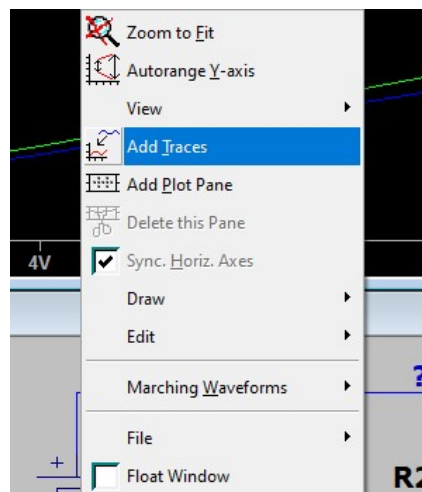
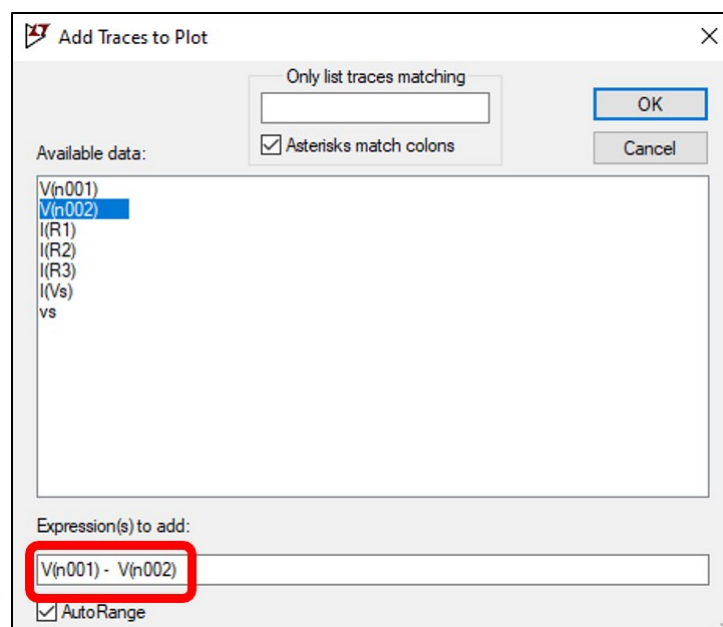
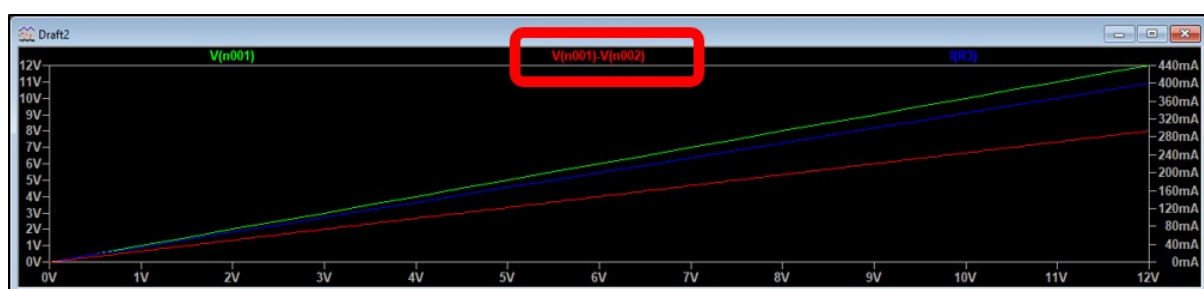
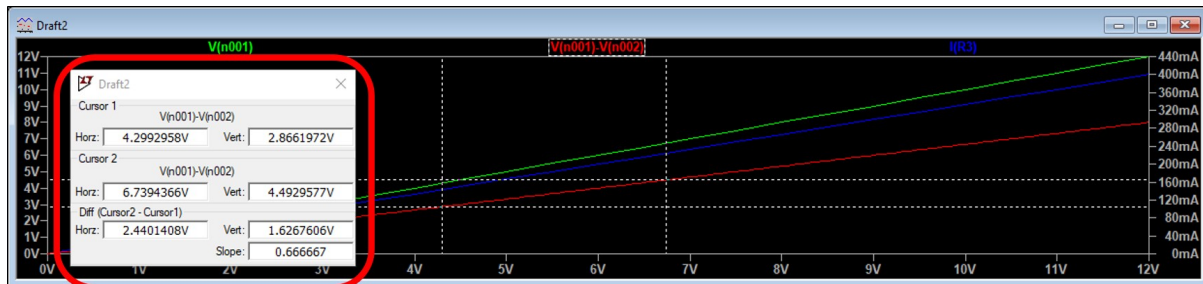

Figure 51: LTspice Add Traces menu.
Figure 52: LTspice Add Traces to Plot window.
Figure 53: LTspice graph window with voltage measurement across R1.
Figure 54: LTspice graph window with cursors.
8. To add the trace representing the voltage across *R1* to the graph, right click anywhere on the graph and click on *Add Traces* as shown in Figure 51. The *Add Traces to Plot* window shown in Figure 52 will be displayed.
9. In the *Add Traces to Plot* window shown in Figure 52, click on the voltage at the positive node identified before (*V(n001)* in this example) to add the voltage to the expression box indicated in the red box. Then type a *minus (-)*, and click the voltage at the negative node (*V(n002)* in the example). Your expression should look like the one in Figure 52. Click *OK* to close the window and add the trace to the graph. A new trace representing the voltage across *R1* will appear in the graph window as shown in Figure 53 (red trace).
10. Looking at Figure 53, what is the voltage across $R1$ when V_S is 4.3 V? You can see that it is difficult to take accurate measurements from the graphs. We can use cursors to get very accurate readings of the X and Y axes.
Add a cursor to the $R1$ voltage trace by clicking on the trace name indicated in Figure 53. A cursor will appear on the selected trace (red trace in this example) as well as a *Cursor* window displaying the cursor values as indicated by the red block of Figure 54.
11. Click on the trace name again to add a second cursor to the graph of Figure 54. Your graph window should now look similar to Figure 54. A second cursor allows additional measurements such as the difference between two points on the trace and the slope of the trace.